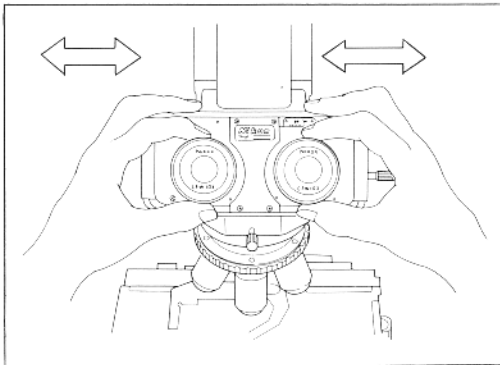

Fig. 15
- 2) Holding the right and left hand milled rings at the base of the binocular eyepiece sleeves, as shown in Fig. 15, and looking into the eyepieces, adjust the interpupillary distance, so that both the right and left viewfields become one. Look at the scale and remember this distance reading for future use.